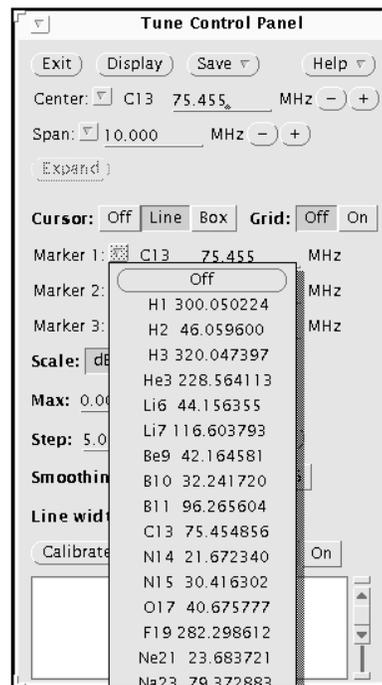

Figure 29. Pull-Down Menu for Marker 1
- a. In the Tune Control Panel (see Figure 25), click on the triangle next to one of the markers to open a pull-down menu (Figure 29 shows the Marker 1 menu). For more detail on using markers, see the “To Use Cursors, Grid, and Markers,” page 120.
Markers – In the **Marker 1**, **Marker 2**, and **Marker 3** fields, the Tune Control Panel provides three markers for marking fixed frequencies. Each marker has a pull-down menu (see Figure 29) that lists the same nuclear frequencies and the Center pull-down menu. Each marker also has an entry field for entering a frequency.